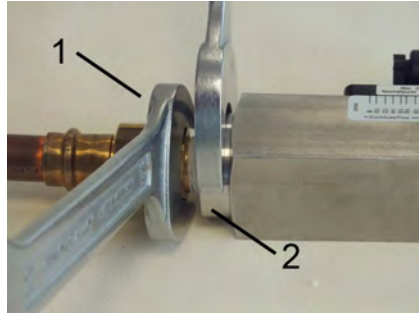

Fig. 11: Screw in the device
3. Keep turning in the adapter union (Fig. 11/1) while holding the process connection of the device locked (Fig. 11/2) until the connection is tight.